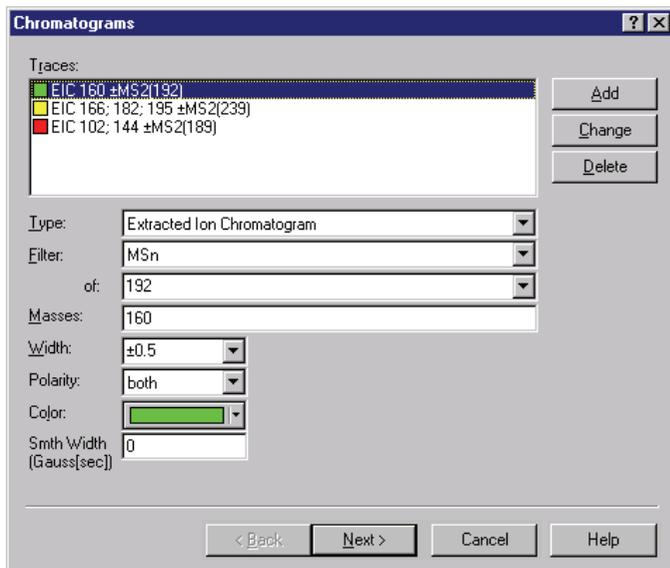

Figure 19 Method editor, part 2; Definition of chromatogram traces
Define the three target compounds (**fig. 19**) and additionally the concentrations of their calibration solutions:
- To define the concentration values corresponding to the concentration levels given in the work table click on the „new“-icon (blue circle in **fig. 19**), enter the level ID and the concentration value separated by a „:“. Finish with **Enter** and repeat for all levels (values for example 2 see **fig. 19**).